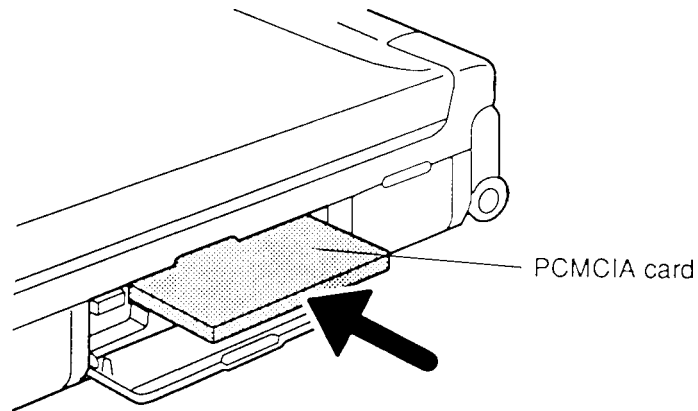

*Figure 4-6 Removing the PCMCIA Card*
To remove an optional PCMCIA card, follow the steps below and refer to Figure 4-6.
3. Snap off the PCMCIA slot **cover** (Figure 4-6).
4. Press the **eject button** to pop the card out slightly (Figure 4-6).